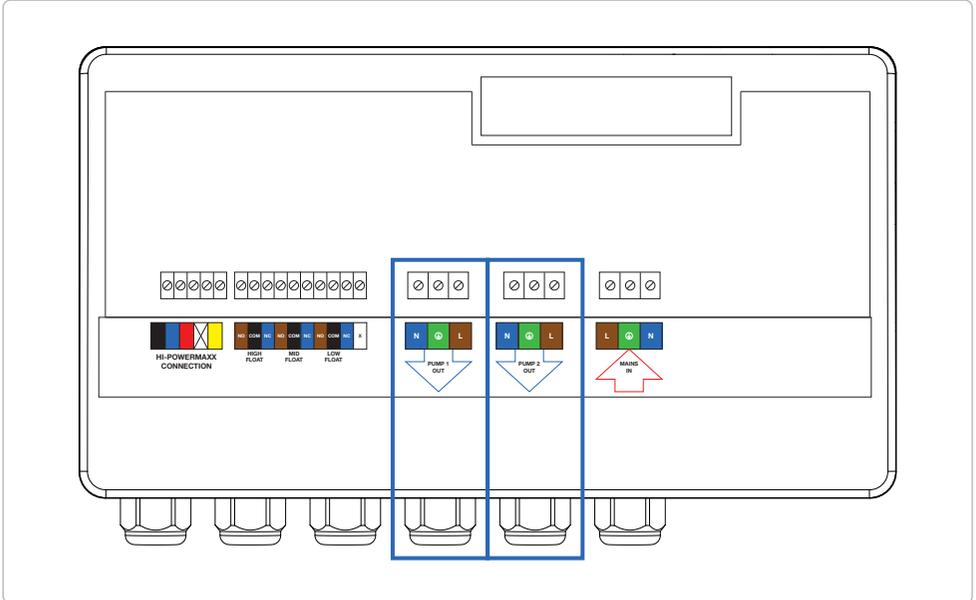

Figure 3. Connecting pump/s
3. Using the cable glands previously installed, feed the pump cable/s through the glands and connect to the corresponding terminal blocks on the main PCB (figure 3).